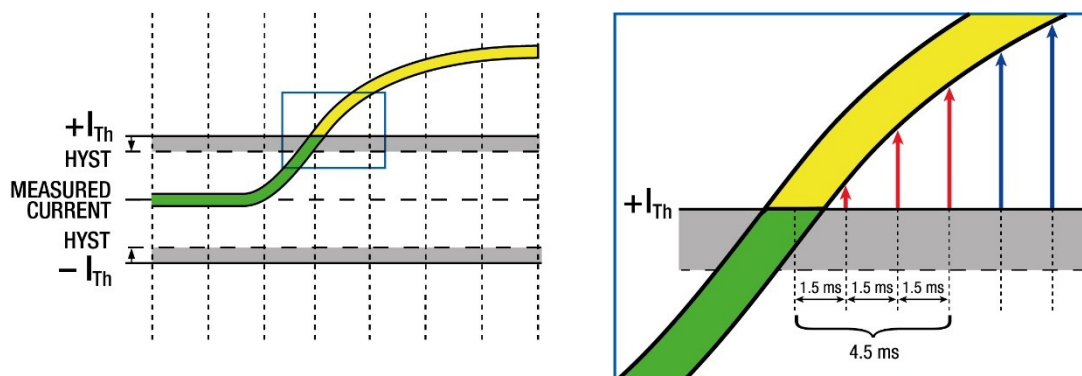

Figure 2: Overcurrent Detection
- The device scans for overcurrent incidents every **1.5 ms**, requiring at least three out of five samples to confirm an overcurrent event as depicted in Figure 2.